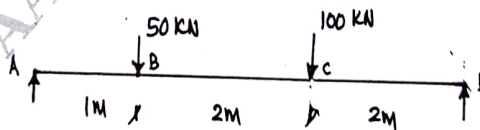

Fig Q10
- 10 Calculate the slope at the supports and deflection under the loads for the beam shown Fig Q10. $E = 2 \times 10^8 \text{ kN/m}^2$, $I = 0.0003 \text{ m}^4$.